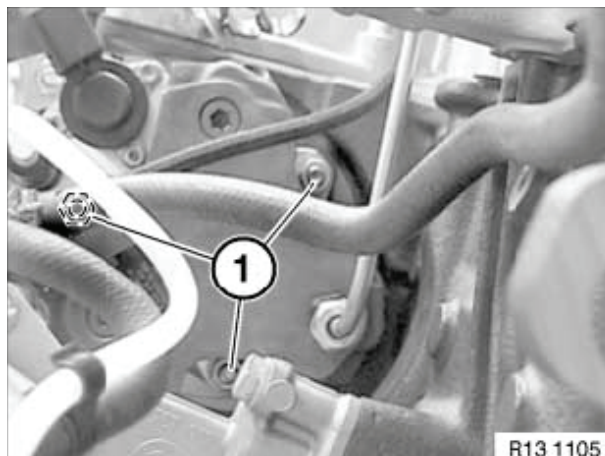

Figure 6-29
3. Install high-pressure fuel pump and install three nuts (**Figure 6-29, (1)**).